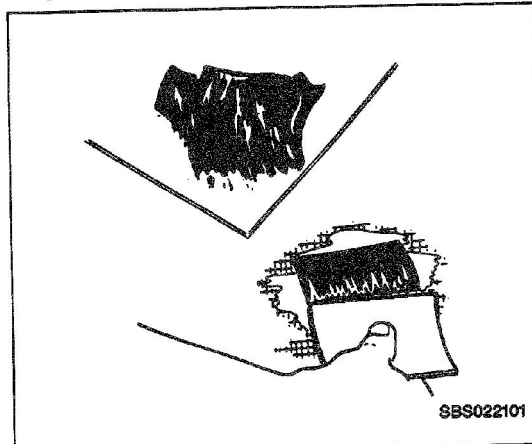

Figure 15—Mixed Repair Material Application
5. Apply the mixed repair material with a squeegee or plastic spreader (Figure 15). Apply a light coat over the entire area; then continue application to a level slightly above the surrounding contour. Make sure that all trapped air is forced out. Allow the mixture to cure 20 to 30 minutes at 16 to 27°C (60 to 80°F).